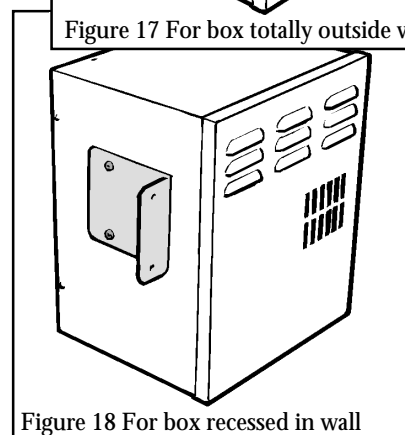

Figure 18 For box recessed in wall
7.3 If the fan box is to be recessed into the wall fit the brackets with the short legs 50mm from the air outlet face of the fan box (see figure 18).